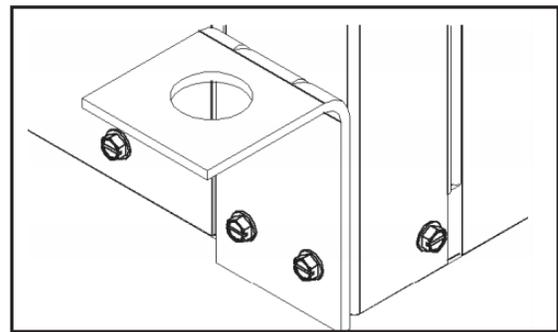

Fig. 6 — Mounting Brackets
2. Mount 4 brackets to unit corner post using the bolts provided in the kit, as shown in Fig. 6. **DO NOT** re-use the screws removed from the unit during Step 1 to mount the hanging brackets on the unit.